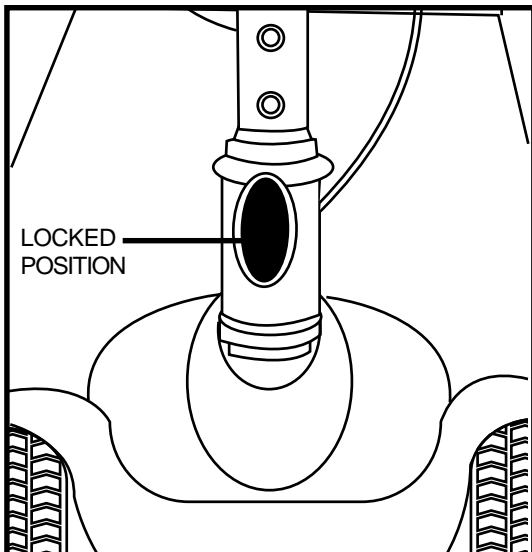

Figure 17. Tiller Lock Knob (Locked)
1. Lock the tiller in the straight ahead position by pushing the tiller lock knob in and turning it clockwise 90°. See **figure 17**. The front wheel must face forward in order to lock the tiller.